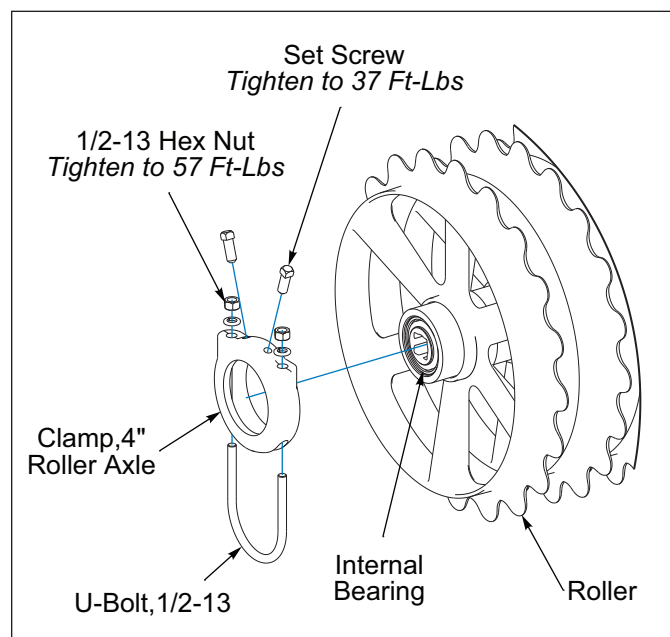

Figure 4-3: 4" Roller Axle Clamp
4. Tighten the Clamp U-Bolt evenly to 57 Ft-Lbs. **See Figures 4-3 and 4-4. U-Bolt *MUST BE* tightened before the Set Screws are tightened.**